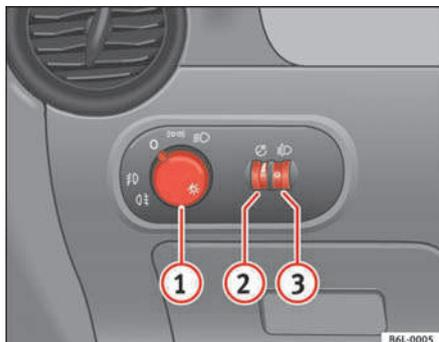

Fig. 56 Detailed view of dash panel lights, fog light and rear fog light control
- Turn the light switch \Rightarrow fig. 56 to position \Rightarrow .